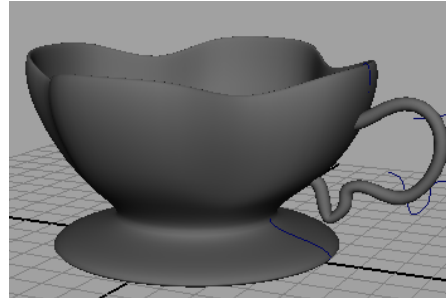

Figure 3-99 Final output of the cup
6. Choose **Move Tool** and **Scale Tool** to adjust the handle with the tea cup to get the final output, as shown in Figure 3-99.